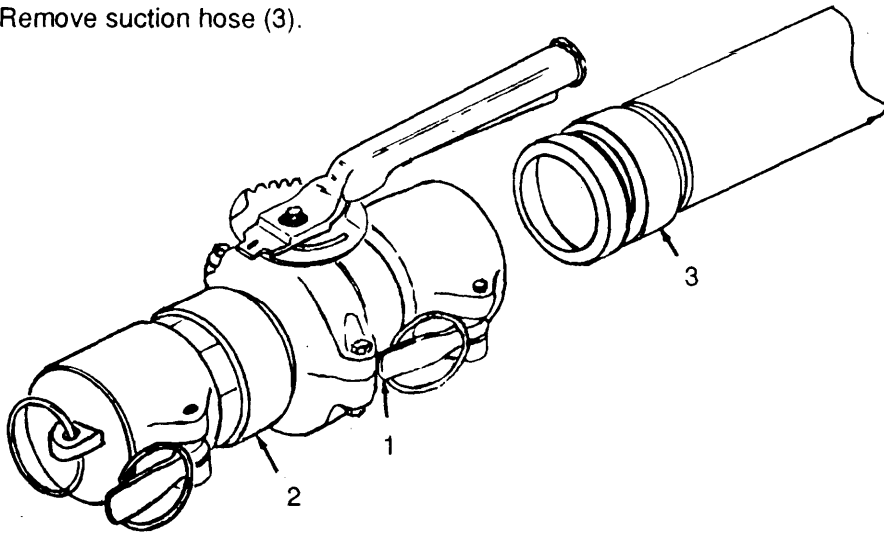

Figure 4-3. Suction Hose, Removal/Installation.
- a. Removal. (Refer to Figure 4-3.)
- (1) Pull upon camlock levers (1) on butterfly valve (2).
- (2) Remove suction hose (3).
- (1) Refer to Figure 4-3 and connect suction hose (3) to butterfly valve (2).
- (2) Push down on camlock levers (1) and secure suction hose.